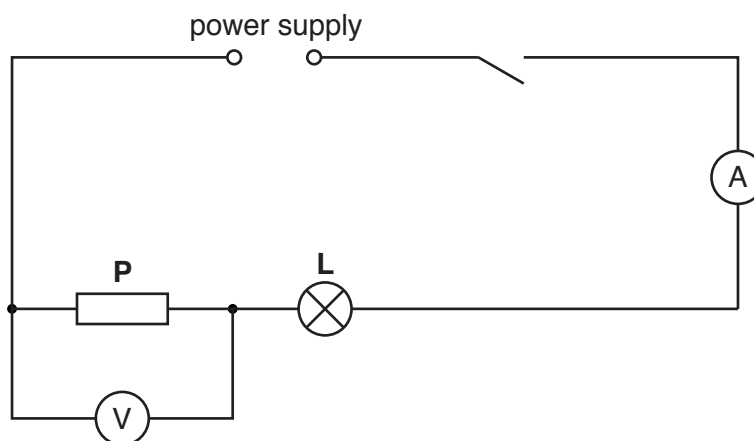

Fig. 3.1
- (iii) A lamp in a suitable holder. Any low voltage lamp will suffice, provided that it glows when connected as shown in Fig. 3.1.
- (vii) Sufficient connecting leads to construct the circuit shown in Fig. 3.1, with two additional leads.
1. The circuit is to be connected by the Supervisor as shown in Fig. 3.1.
Set up the circuit so that it is arranged as shown in Fig. 3.1.